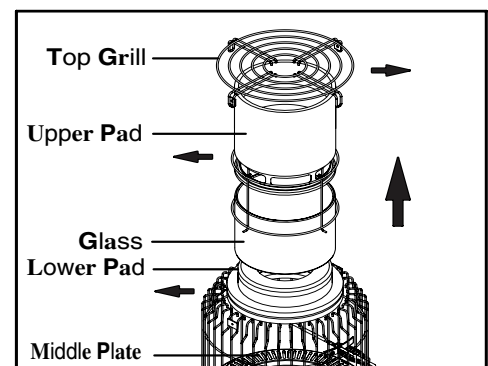

Fig. 3
- Remove **Top Grill** from **Heater** and **Upper pad** (Fig 3)
remove **Lower pad** on **Middle plate** (Fig 3)